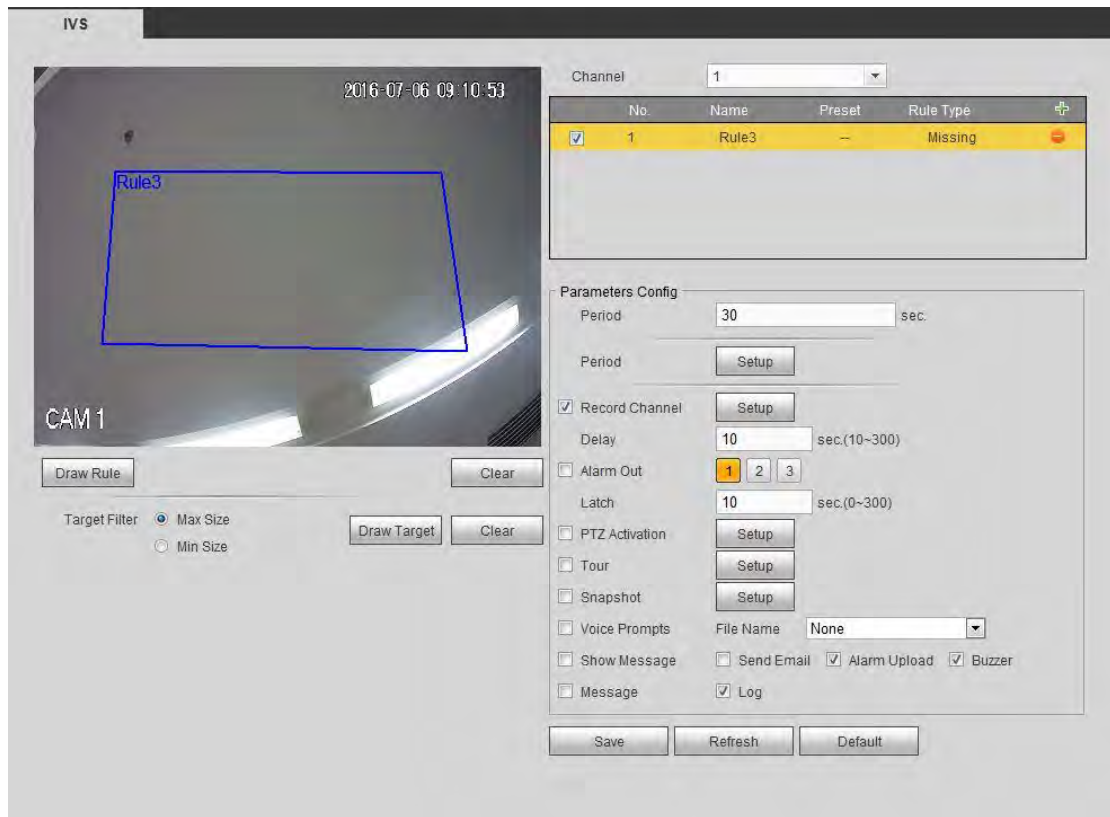

Figure 5-85
Step 3 Click Draw rule button and then left click mouse to draw a zone. Right click mouse to complete. See Figure 5-85.